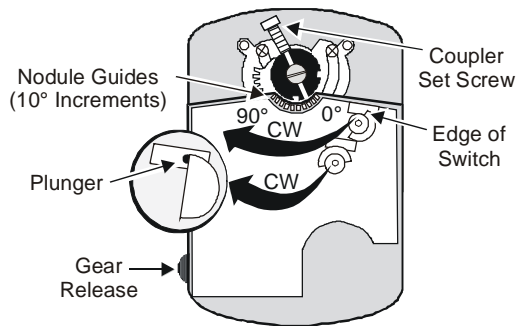

Figure 6: Switch Angle Settings
To change the angle of Switch S1 to 20°, refer to Figure 6 and proceed as follows:
2. Rotate Switch S1 CW, and align the edge of the switch with the plunger until the plunger rises. (See Figure 6.)
To change the angle of Switch S2 to 70°, refer to Figure 6 and proceed as follows:
2. Rotate Switch S2 CW, and align the edge of the switch with the plunger until the plunger rises. (See Figure 6.)